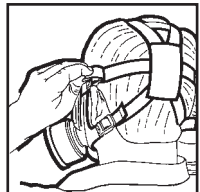

figure 3
6. Tighten the side (temple) straps. (see fig. 3)